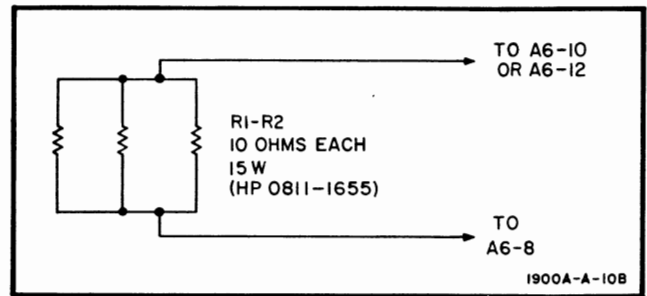

Figure 5-4. Dummy Load for 10V Power Supply
a. Connect 10-volt Power Supply Dummy Load, figure 5-4, between pin 8 and pin 10 of 15-pin Connector.
a. Connect 10-volt Power Supply Dummy Load, figure 5-4, between pin 8 and pin 12 of 15-pin Connector.